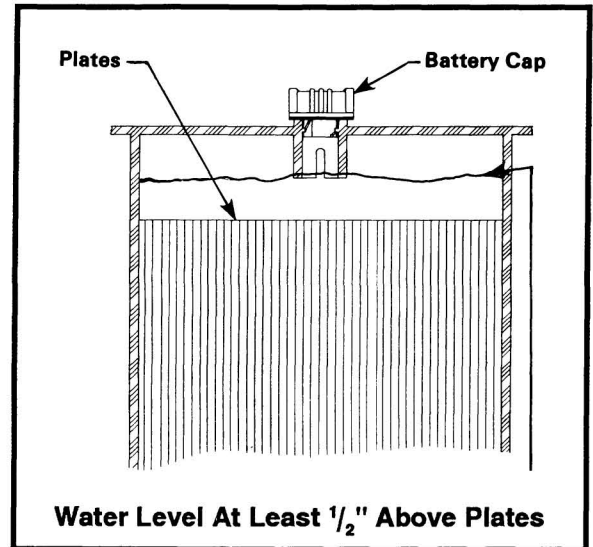

Figure 17
2. The water level in the batteries should be checked weekly (See Figure 17) for proper level. Add water only after charging unless the water level is below the top of the plates. In this case, add just enough water to cover the plates, charge and then check the level again. For best battery life, add only distilled water to the batteries.